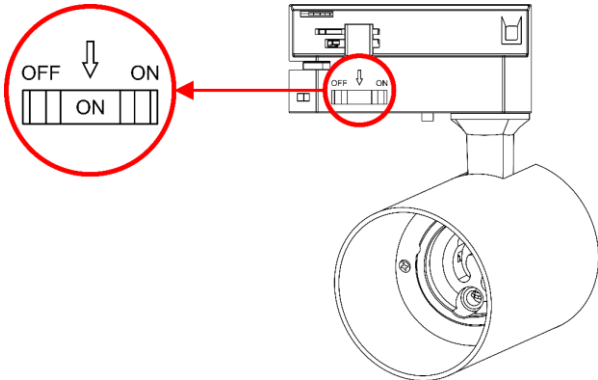

Fig. 09
05) Select ON with the **circuit selector (05)** as shown in Fig. 09.